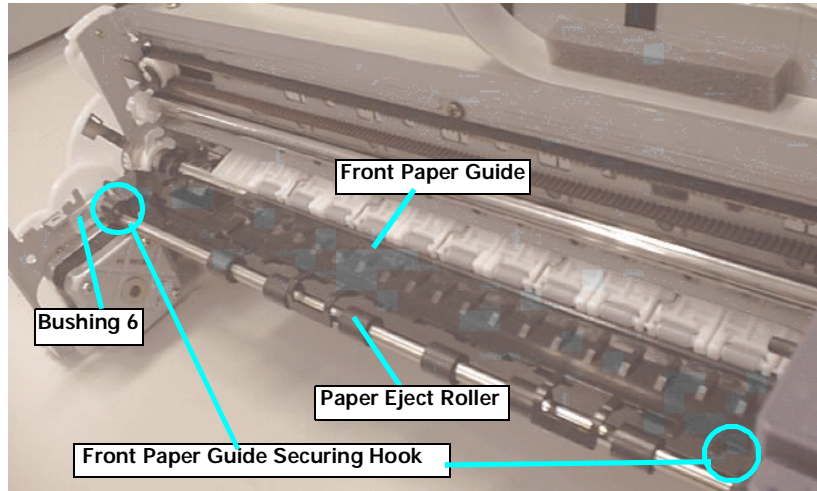

Figure 4-18. Front Paper Guide and Paper Eject Roller Removal
6. Release 2 hooks attaching the Front Paper Guide to the Paper Eject Roller and remove the Front Paper Guide to the front side of the printer. (Refer to Figure 4-18.)
7. Release the hook of the Bushing 6 securing the Paper Eject Roller to the Printer Mechanism, rotate the Bushing 6 to the top and remove the Paper Eject Roller. (Refer to Figure 4-18.)